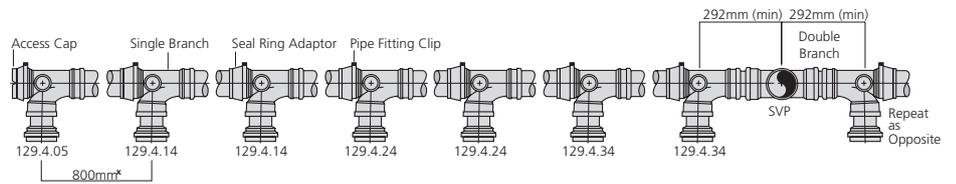

Fig.39a Multiple WC pan connections layout
- Select 129 WC Manifold Connectors variants as shown (Fig.39a) to accommodate fall in float